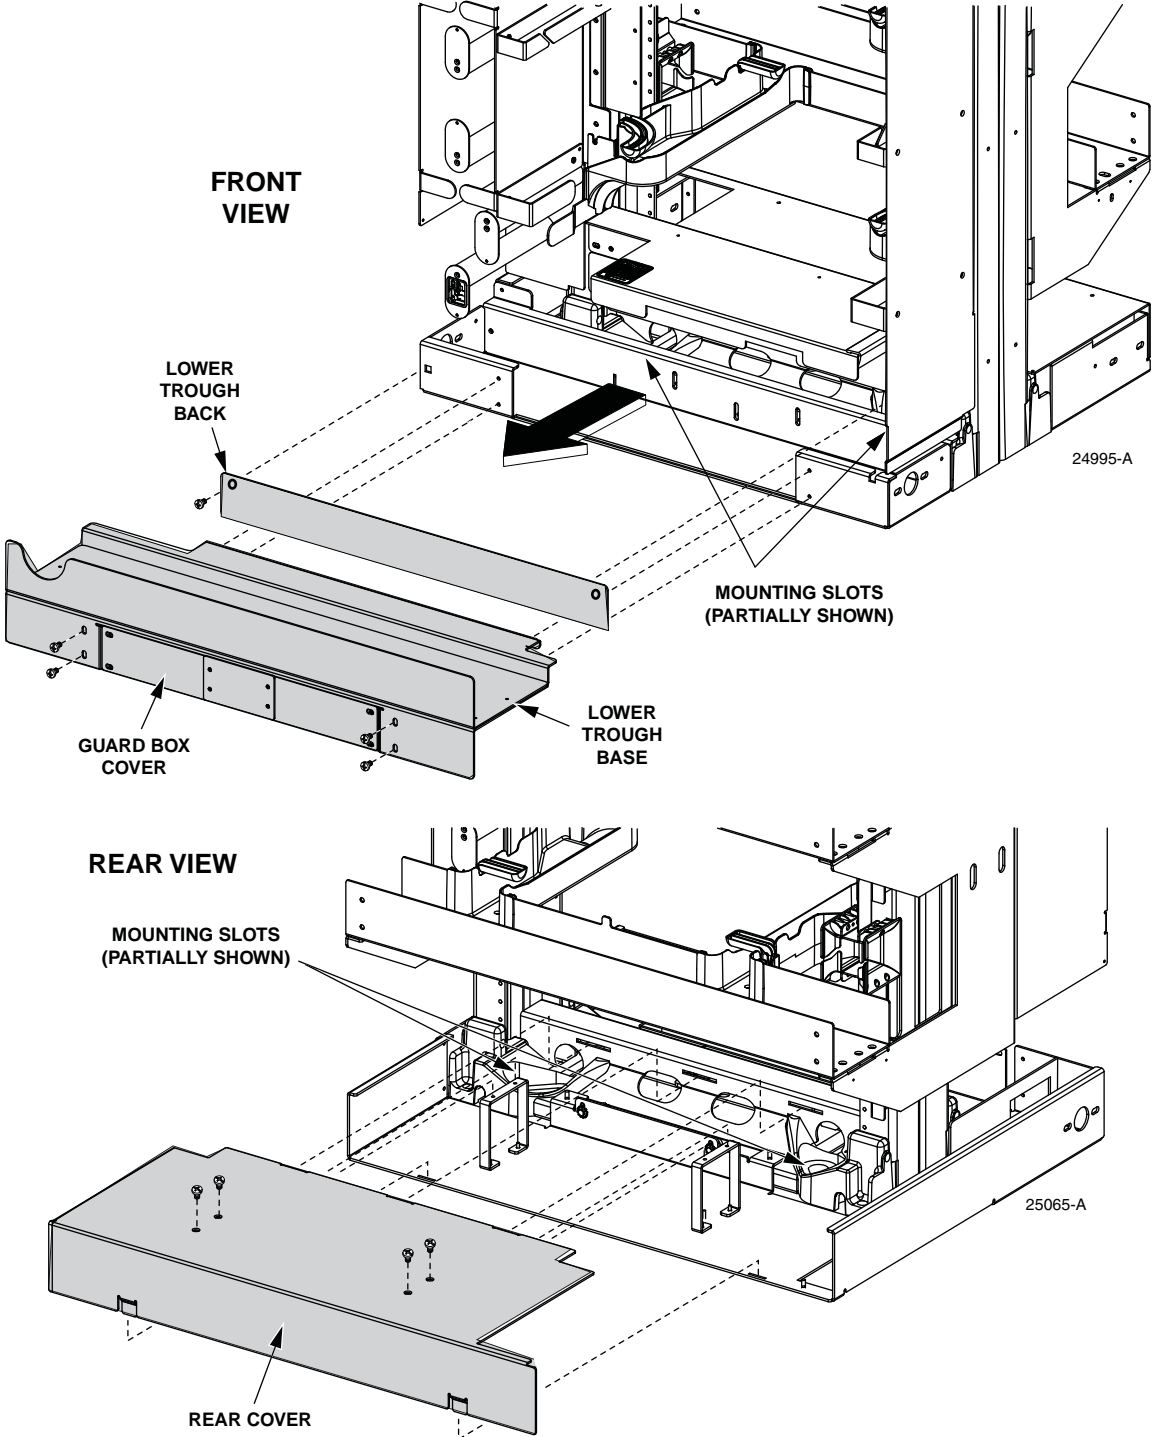

Figure 10. Removing Troughs
7. Remove the front and rear troughs to access the mounting slots (Figure 10).